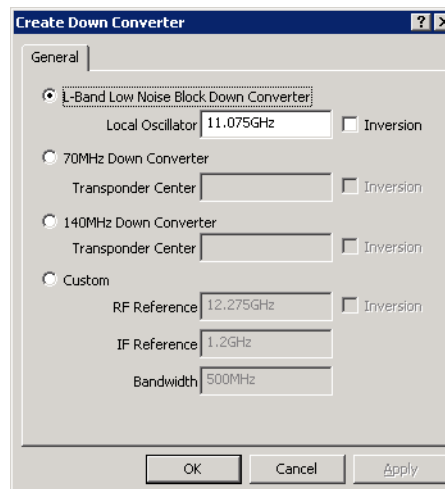

Figure 3-19 Create Down Converter dialog
2. Right-click on the Antenna icon again and select **Create Down Converter** (figure 3-19). Ensure that the frequency settings here are correct.